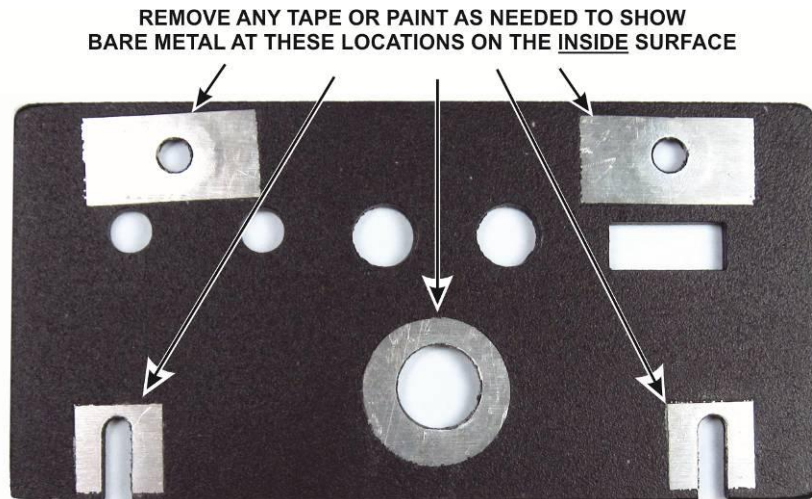

Figure 37. Preparing the Inside Surface of the Left Side Panel for Mounting.
- Unwrap the left side panel and clean the inside surface as needed in the five locations shown in Figure 37